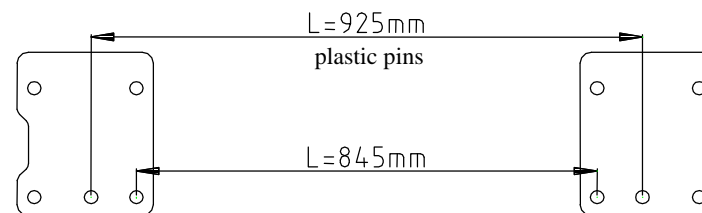

Fig.2 Elements distance
3. On the left and right side in the boot are plastic pins (diameter 11mm). On this pins put elements pos. 6 (check position of hole A) – see fig. 2. Next drill holes through holes pos. B and C, use bit Ø11 mm, drill straight through.
4. Put bolts M10x40 through holes (pos. C) in element pos. 6 and next from below of car put element (pos. 4) from the left side (fix loosely), from the right side put element (pos. 5) - fix loosely too.
5. Through holes pos. B (in elements pos. 6) put bolts M10x30 and fix them with floor and element (pos. 7).
6. In this way prepared elements (pos. 4 and 5) put main bar of the towbar (pos. 1) and fix it using bolts M12x30 (loosely).
7. Through holes (pos. D) fix with original tow handle using distance plain washers Ø58xØ12x6 (pos. 8).
10. Fix body of the automat and place tow-ball according to supplied instruction. Note! Remember to place socket plate (pos. 3) as shown on the drawing 1.